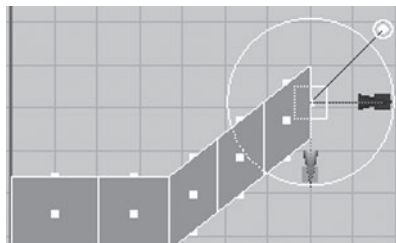

FIGURE 3.64 Extruded faces pulled up.
34. In Front view, drag the green handle approximately three units as shown in Figure 3.64.